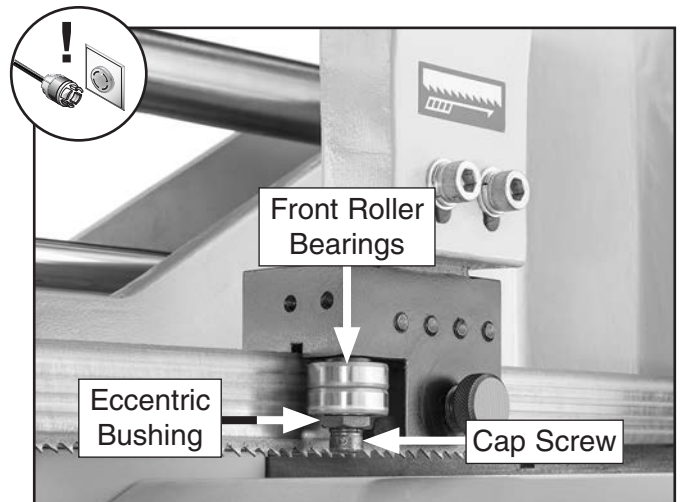

Figure 100. Roller bearing adjustment components.
2. On left blade guide, loosen cap screw of front roller bearings (see **Figure 100**).
3. Turn eccentric bushing clockwise to adjust roller bearings closer to blade, and counter-clockwise to adjust them further from blade (see **Figure 100**). Roller bearings should lightly contact blade or have a maximum clearance of 0.002".